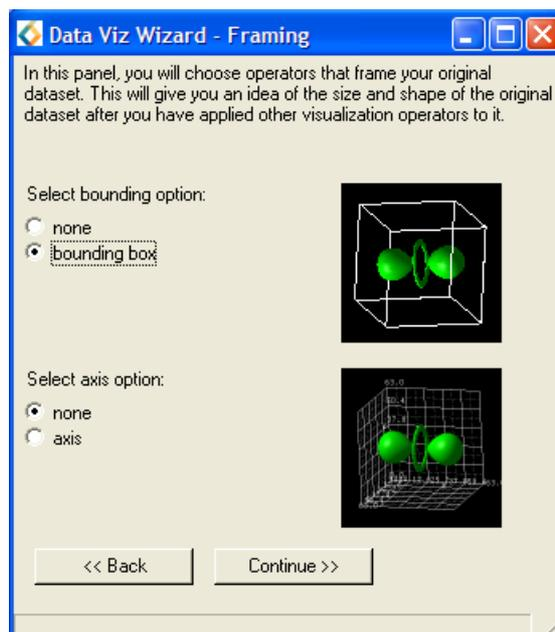

Figure C.41: Data Viz Wizard – Framing
- Select **Continue >>** in order to load the **Data Viz Wizard** (Figure C.41), this is where the visualization method can be defined.